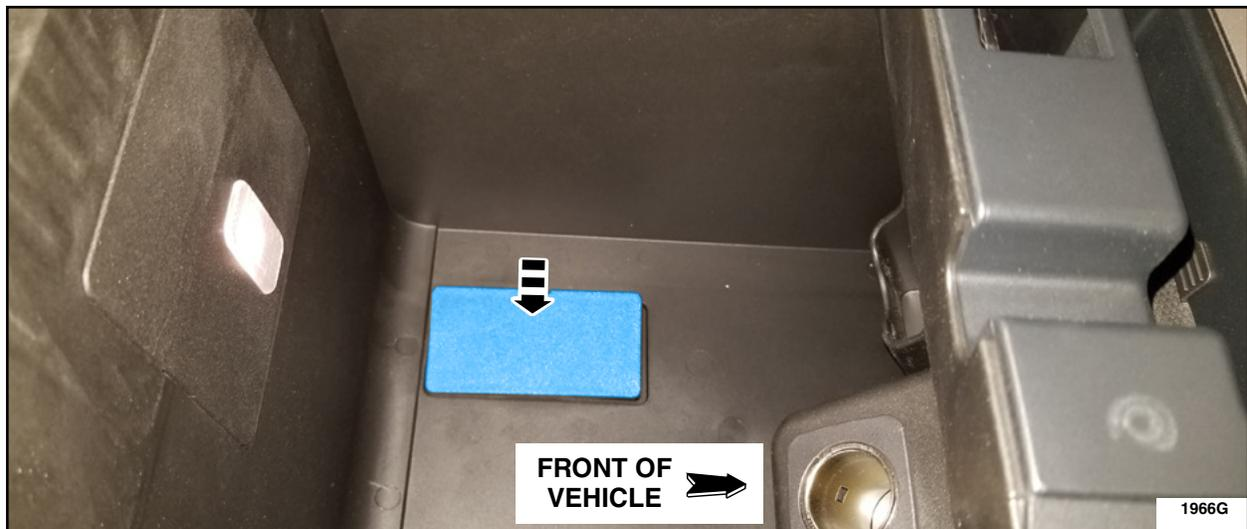

FIGURE 7
- Snap the MPR cover fully into place and ensure that it cannot be removed by hand. Install the mat. See Figure 7.